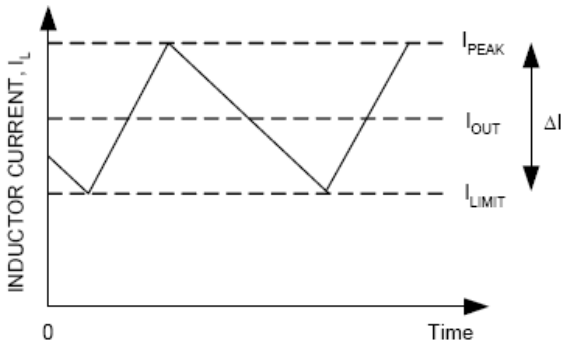

Figure 2. Current-Limit Algorithm
The current-limit circuit employs a "valley" current-sensing algorithm (See Figure 2). The TD1728 uses the low-side MOSFET's RDS(ON) of the synchronous rectifier as a current-sensing element. If the magnitude of the current-sense signal at PHASE pin is above the current limit threshold, the PWM is not allowed to initiate a new cycle. The actual peak current is greater than the current limit threshold by an amount equals to the inductor ripple current. Therefore, the exact current-limit characteristic and maximum load capability are the functions of the sense resistance, inductor value, and input voltage